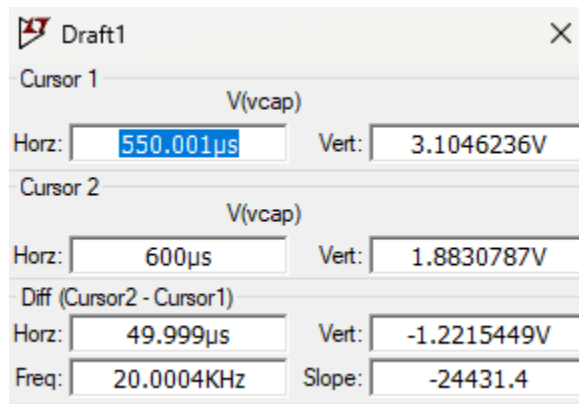

Figure 11: The pop-up associated with cursors provides information about the location of the cursors on the waveform.
- All the information about the two cursors is contained in the Draft 1 pop-up shown in Figure 11.